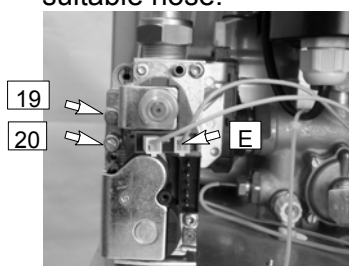

Figure 15.5
- Loosen the internal screw 19 (Figure 15.5) on the Outlet Pressure Test Point of the Gas Valve and connect a pressure gauge using a suitable hose.
- Disconnect the gas modulator coil by removing the electrical connector E (Figure 15.5).